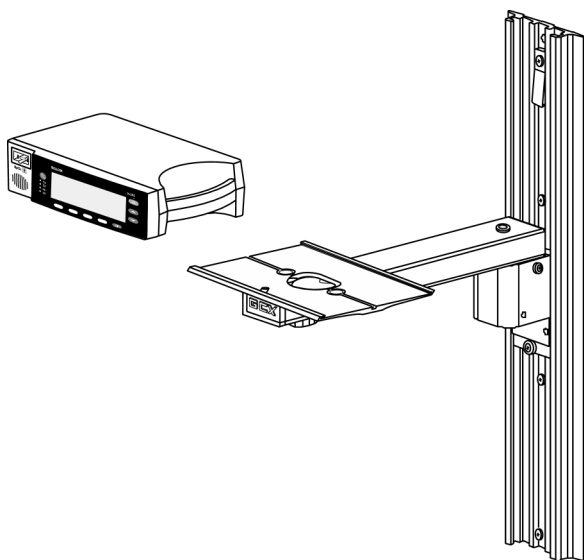

Figure 4: GCX Poly-mount (vertical wall mount with 19-inch channel)
- GCX Poly-mount (vertical wall mount with 19-inch channel). See Figure 4, page 14.
The vertical wall mount with 19-inch channel attaches to the N-395 monitor GCX mounting plate as shown in Figure 4. For further instructions regarding connecting the vertical wall mount with 19-inch channel, refer to the illustrated directions for use included with the vertical wall mount with 19-inch channel.